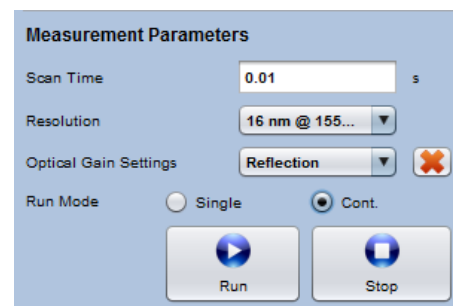

Figure 7: Measurement parameters for reflection measurement
3. **Set measurement parameters:** (see Figure 7)